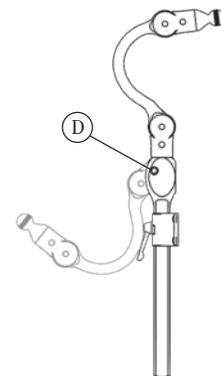

Fig. 4
3. To flip the headrest back push button (Fig. 4, D) and swing unit back.
2. Horizontal / Angle – Loosen pivot bolts (Fig. 1, A) for depth (Fig.4) and angle (Fig.3) adjustments. It is not necessary to fully tighten all screws until final position is achieved.